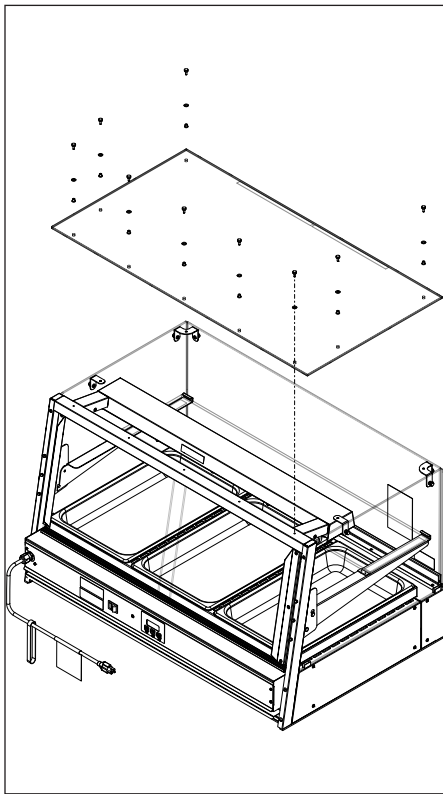

Figure 9. Top Glass Replacement
2. Remove the top Phillips head screws, washers, and nylon spacers securing the top glass (Figure 9).